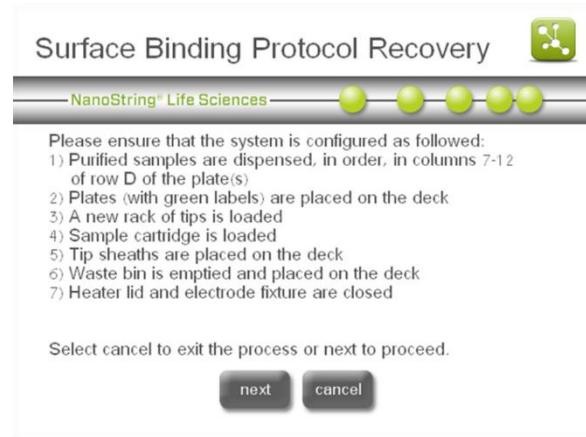

Figure 131: The 'Surface Binding Protocol Recovery' instructions.
2. Instructions will appear on the next screen (**Figure 131**). Follow the instructions on the touchscreen to configure the system for the surface binding protocol.